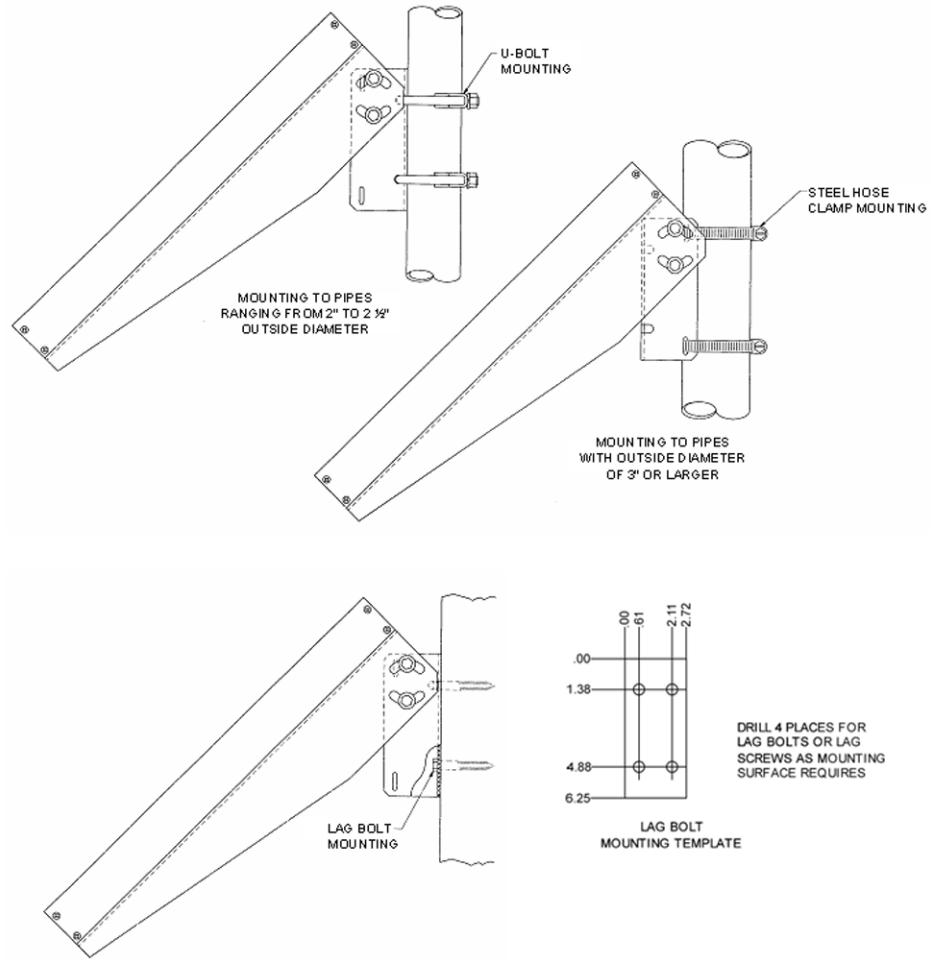

Figure 2.1—Mounting of solar panel to pole or bulkhead
**Note** Refer to Figure 2.1, page 23, for solar-panel mounting examples.